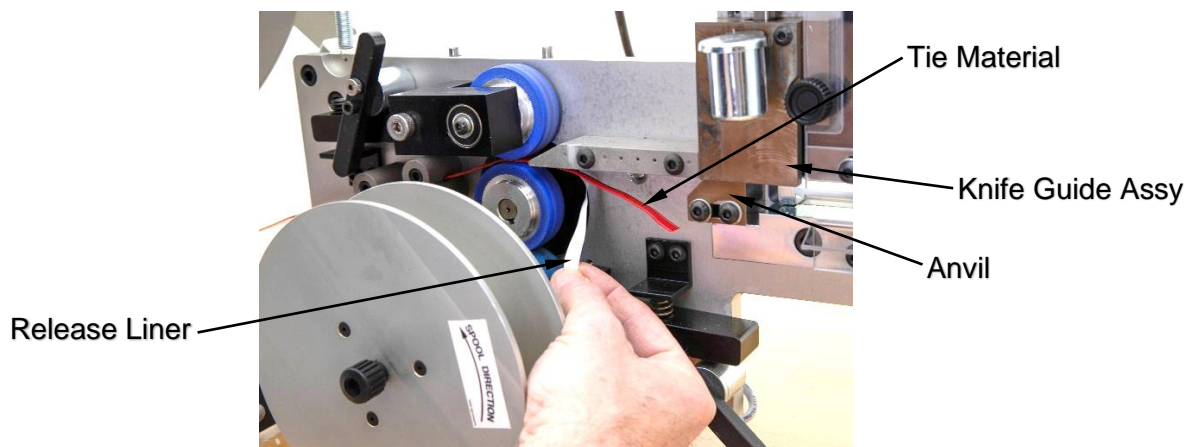

Figure 3.8
- I. Peel the release liner from the tie material. Push the end of the tie into the slot in the Knife Guide Assembly, just above the Anvil. (Figure 3.8)